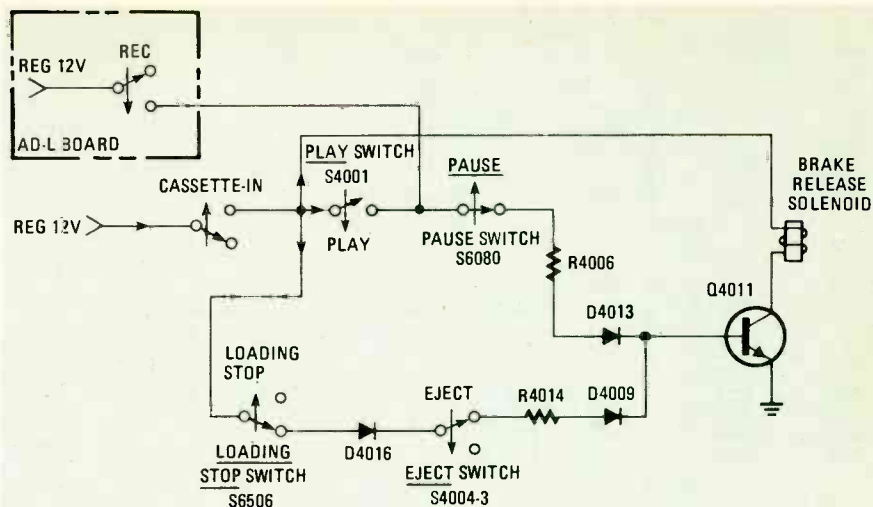

FIG. 3—BRAKE RELEASE ELECTRONICS control the brakes on both the take-up and supply reels. Brakes are released when solenoid is energized.
To establish a constant-current source, a constant voltage drop must be maintained across load resistor,  $R_L$ . The closed-loop operation of IC2-b tries to maintain a zero differential input voltage. With  $V_A$  applied to the non-inverting input, point A is forced to  $V_A + V_{BE}$  so that the voltage of point B would equal  $V_A$ . Thus a constant voltage potential is maintained across  $R_L$ . With  $V_A$  constant at point B, the current source remains constant, and varying  $R_X$  has no effect on the current source, provided that  $R_X \times I_{SOURCE}$  is not greater than  $V_A - V_{BE}$ , so that transistor Q2 is saturated. This non-linear condition however will not be noticed since  $R_X \times I_{SOURCE} \geq 2V$  will force the ADD3501 to display +OFL. (See Fig. 3.)
Figure 3 shows the brake-release solenoid electronics. When the solenoid is at rest, the brakes are spring-applied to both takeup and supply-reel turntables. When activated, the solenoid releases both brakes. Inserting the cassette and dropping the lift compartment to its latched position turns on the cassette-in switch. This action applies 12-volts DC directly to the solenoid.
The bottom of the solenoid goes to ground through Q4011, but only when the transistor turns on. Figure 3 shows that there are two paths to the base of Q4011. One is via PLAY switch S4001, PAUSE switch S6080, R4006, and D4013. This path turns Q4011 on only when the PLAY pushbutton is down.
Another NTSC standard pattern that is available with the model 1250 is the "staircase." The reason for the name should be obvious from the waveform. There are actually three different staircase patterns available, each with a different purpose. They are shown in Fig. 3. The pattern in Fig. 3-a is just 5 steps of video luminance without modulation. The screen will show a pattern of vertical bars, starting at left with black and going to white. The steps are 20 IEEE units each. These bars can be used to check for luminance response and linearity. It's the same procedure as with the color bars: Use a comparison pattern on one channel of the scope. All steps in the signal at the video detector must be exactly the same amplitude as the signal from the model 1250. Turn the CHROMA switch on the front panel of the model 1250 off to get this signal.
Figure 3-b shows one of the two modulated staircase patterns. Each step is modulated 20 IEEE units with chroma at burst phase. To get this signal, push the LOW STAIRCASE button. Figure 3-c shows the high staircase—identical but modulated at 40 IEEE units.
**FIG. 3—NTSC STAIRCASE waveforms.** The waveform shown in *a* contains only luminance and produces a series of bars on the picture screen from black to white. The low staircase waveform shown in *b* contains 20 IEEU unit chroma modulation. The high staircase waveform shown in *c* contains 40 IEEU unit chroma modulation. The waveforms shown in *b* and *c* are used to measure differential gain.